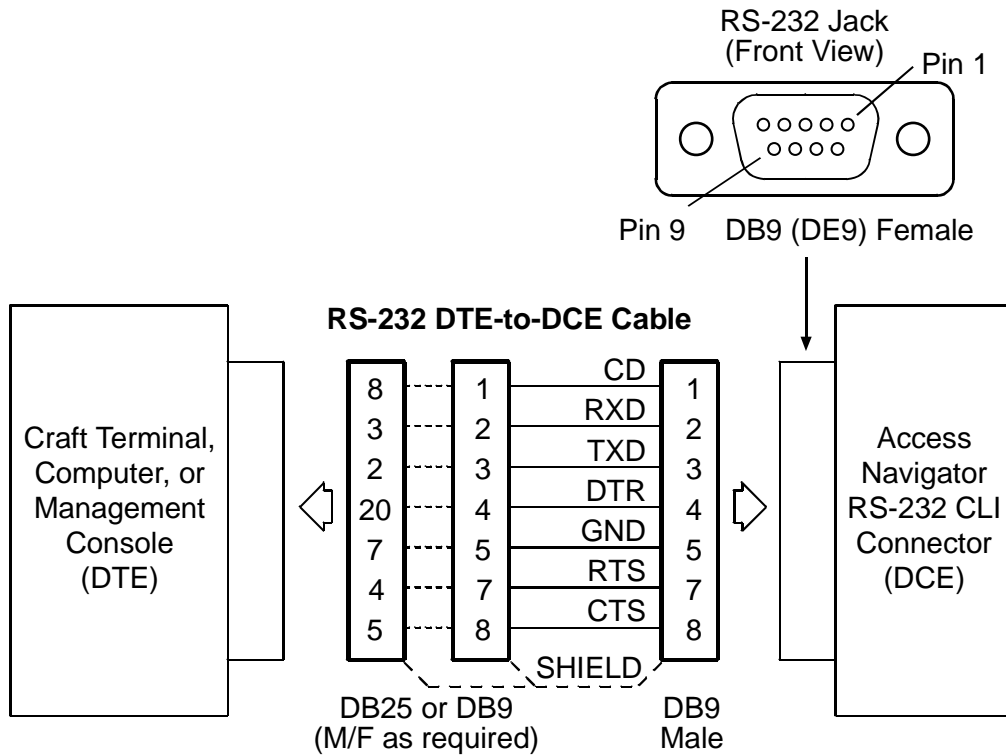

Figure 6-7. RS-232 DTE-to-DTE Cable Connections
- For Direct Connection – to connect the Access Navigator directly to a computer, craft terminal, or Network Operations Center, you will need a shielded RS-232 DTE-to-DCE cable (see Figure 6-7). This is the standard (or straight) cable used for connecting a computer to modems and other DCE devices.